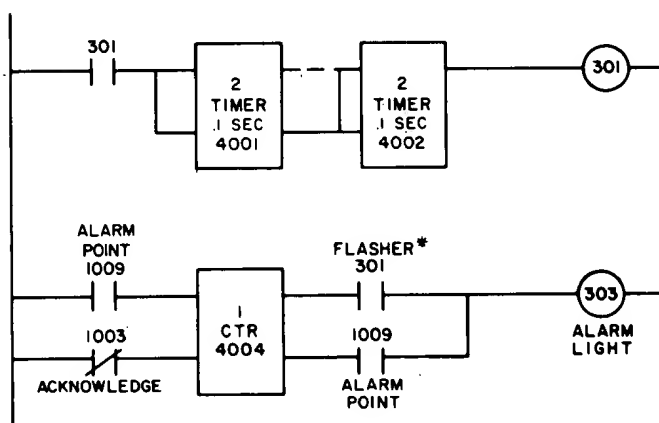

Figure 11. Alarm Point Monitoring
The programming below controls the operation of an alarm light. See Figure 11. When the alarm point (1009) transitions from open to closed (the alarm condition), the alarm light (303) begins to flash. When the alarm is acknowledged, the lower output (1003) is energized and the light comes on steady. When the alarm point is reset, the light goes out. If the alarm point comes on and then turns off almost immediately, the light will flash until acknowledged, at which time it will go out.